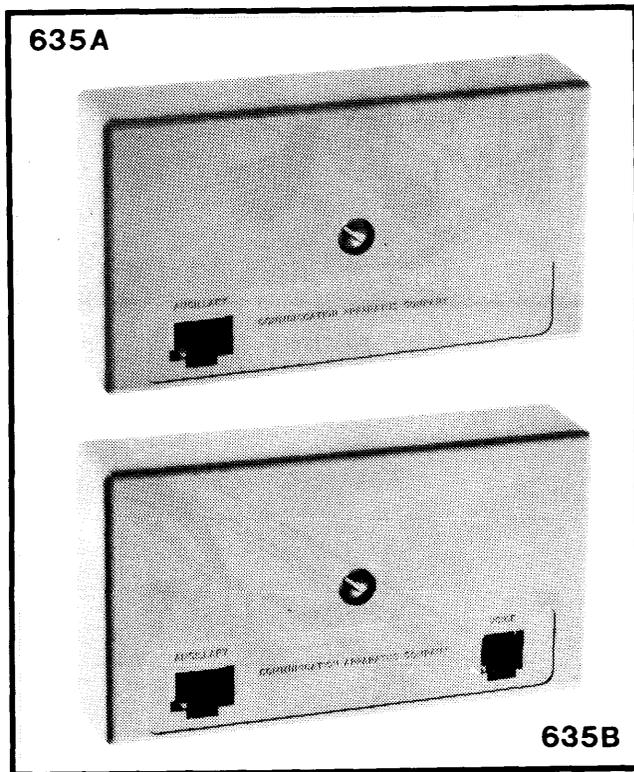

FIGURE 1
1.01 This instruction details the procedures for installing a 635A or 635B Ancillary Jack. See Fig. 1.